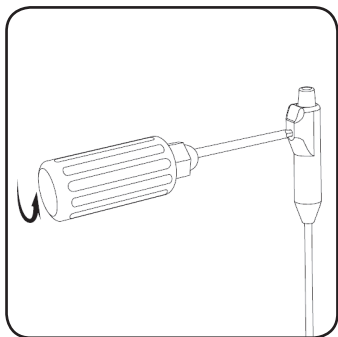

Figure 17. Use the torque wrench to turn the setscrew counterclockwise to **back up** the percutaneous extension setscrew and allow for insertion of the lead.
3. Use the torque wrench to turn the setscrew counterclockwise to back up the setscrew. Do not remove the setscrew from the connector block (**Figure 17**)